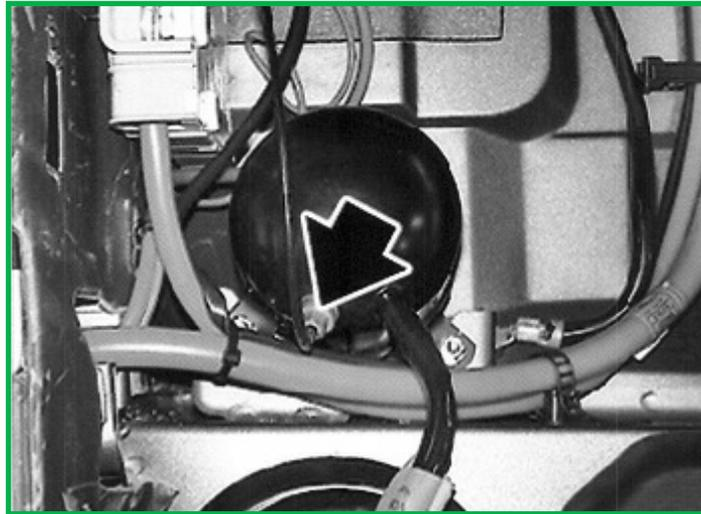

FIGURE 3
- Carefully loosen the air fitting to deflate the air spring. (Figure 3)